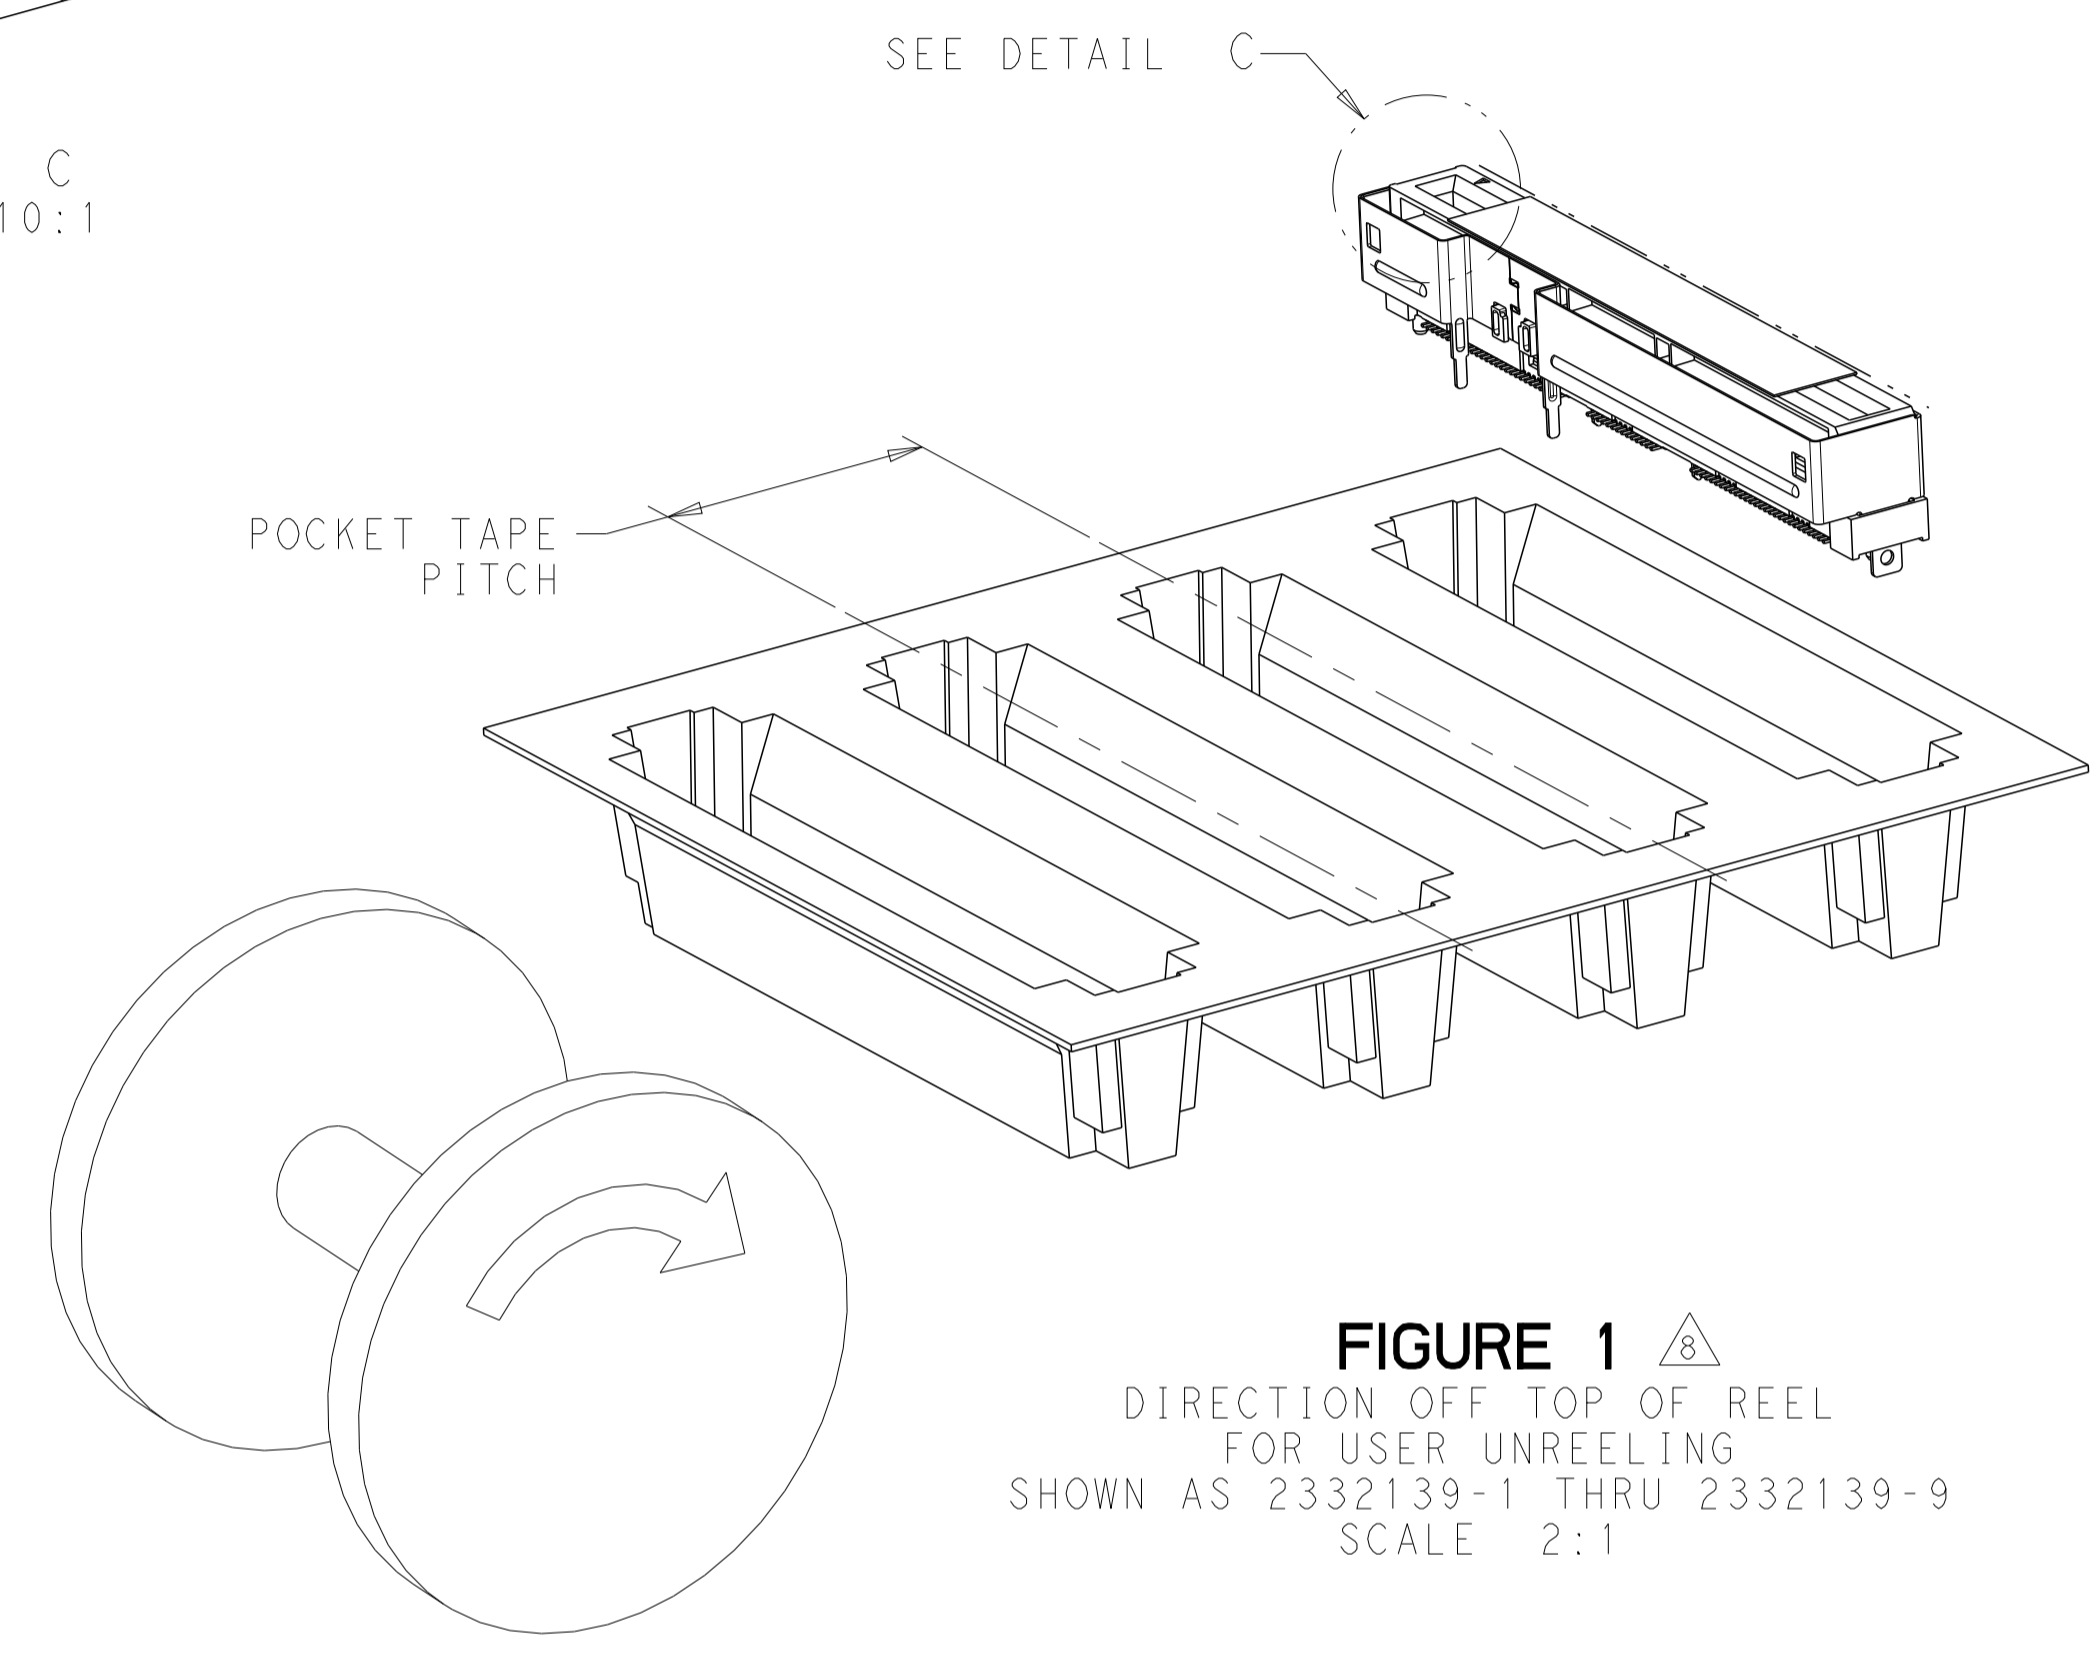

FIGURE 1 \triangle
- 8 TAPE AND REEL PACKAGED FOR PICK AND PLACE SMT PROCESSING, SEE FIGURE 1. POCKET TAPE WIDTH = 72.